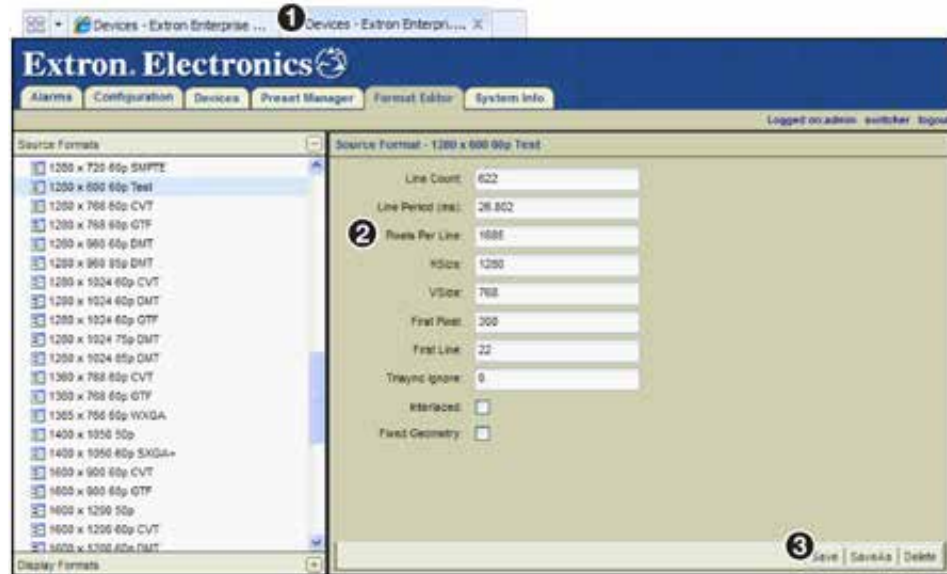

Figure 142. Enter Values Into the Source Format Editor Page
40. Click the right tab (**Source Format Editor**) (see figure 142, ①) and adjust the **Pixels Per Line** value (②) by plus or minus one pixel to see if this improves image sharpness. Click the **Save** button (③) each time the source is adjusted.